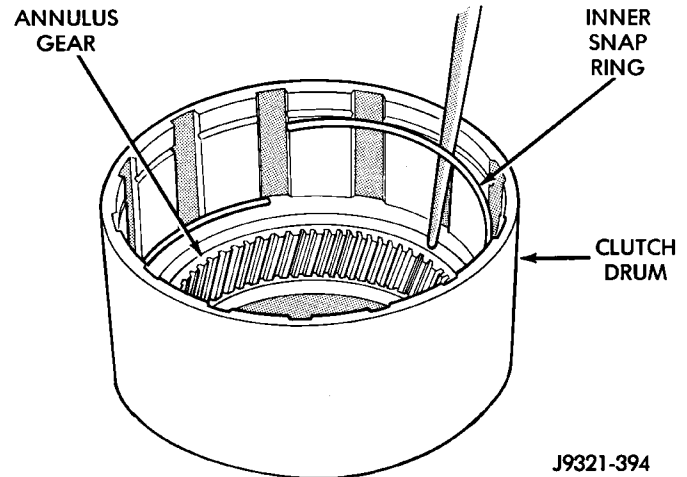

Fig. 216 Clutch Drum Inner Retaining Ring Installation
(6) Slide clutch drum forward and install inner retaining ring (Fig. 216).